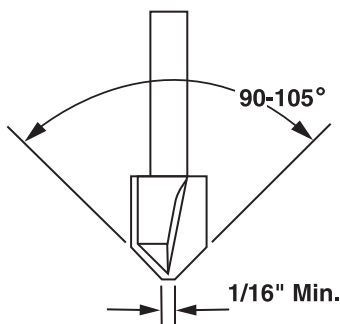

FIGURE 1
- i. Hand operated routers equipped with modified 90-105 degree "V" bits (See figure 1) can be used effectively to remove material for folding.